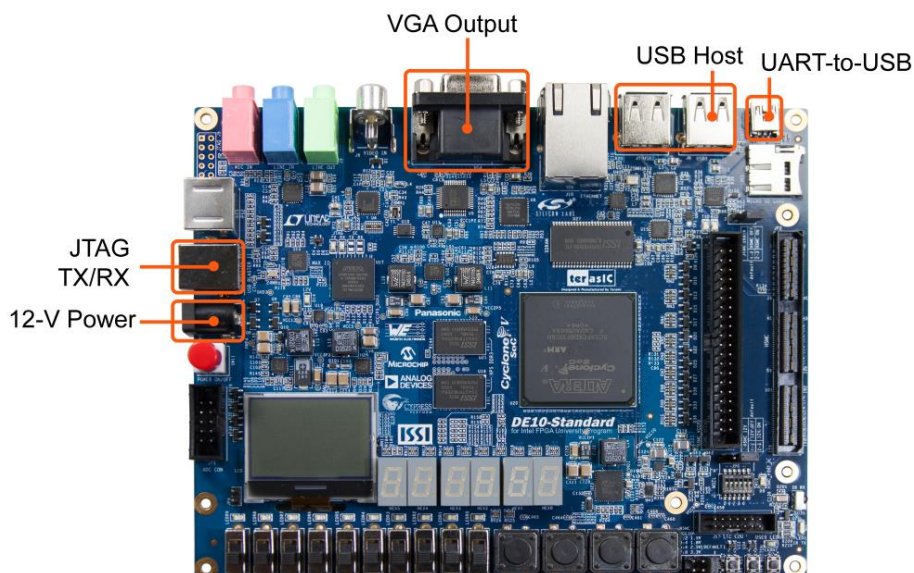

Figure 3-3 USB, VGA Output and Power Cables
Cable connections are shown in Figure 3-3 as below:
1. Connect your computer to the development board by plugging the USB cable into the USB connector (J13) of DE10-Standard (connection shown in Figure 3-3)
1. Connect your computer to the development board by plugging the USB cable into the **Mini USB connector** (J4) of DE10-Standard (connection shown in **Figure 3-3**)